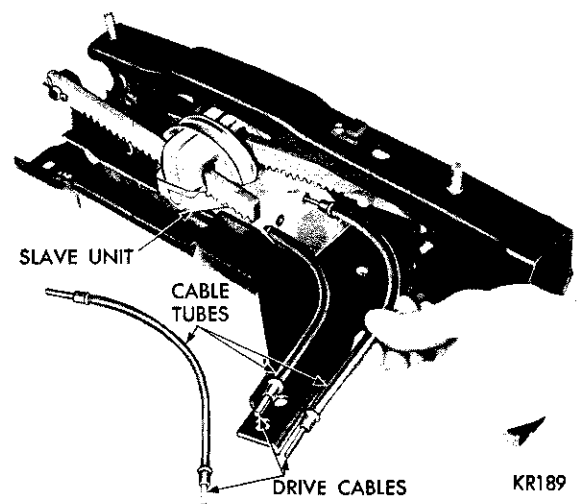

Fig. 5—Installing Left Cable Tubes in Slave
(1) Place the three left cable tubes into the left slave unit (Fig. 5).